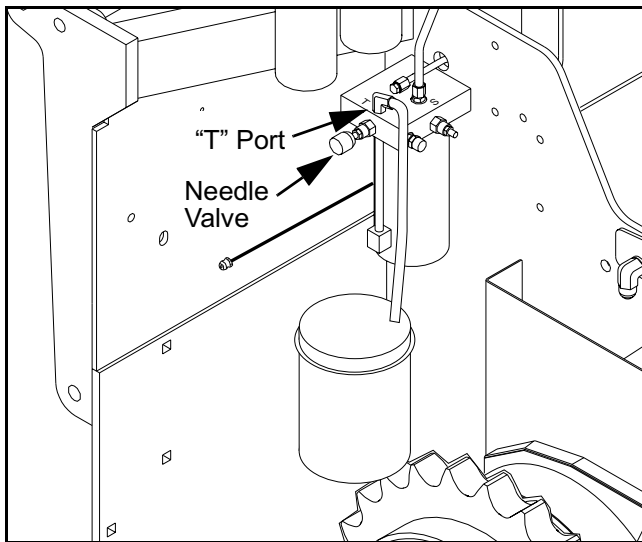

Figure 3 - 24 Adjusting steel track tension
- 1) Disconnect the line from the “T” port on the track tension cylinder. Install a plug into the disconnected line. (Figure 3 - 24)